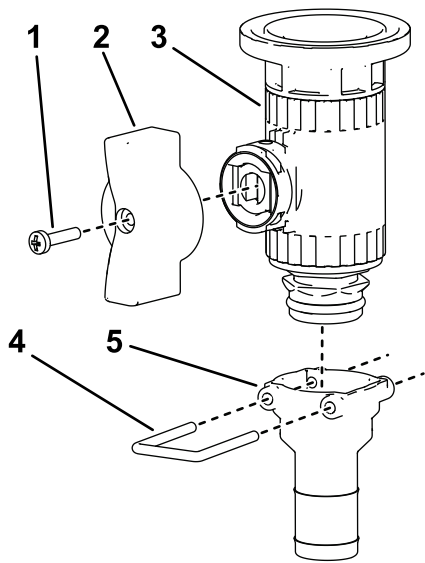

Figure 39
1. Assemble the wing handle and straight fitting to the flanged control valve (Figure 39).
2. Assemble the straight fitting to the flanged control valve using the retainer as shown in Figure 39.